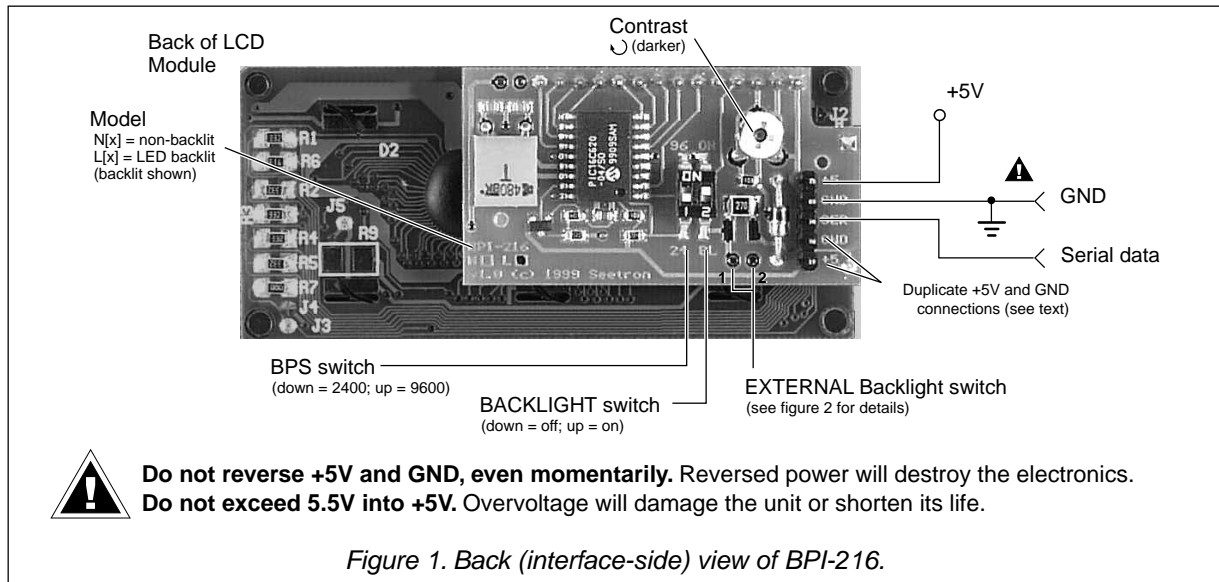

Figure 1. Back (interface-side) view of BPI-216.
• Note: Abusing the module, operating it outside specified limits of power or temperature, or attempting to repair or modify it, voids this warranty. See figure 1 (page 2) and specifications/notes (page 8).
Figure 1 shows the major features and configuration options of the BPI-216 circuit board. Note: The Backlight switch has no effect on non-backlit models. The model (-L for backlit, -N for non-) is marked at the lower-left corner of the interface board.
On models equipped with an LED backlight (marked **L[x]** in the lower left corner of the interface board), you may turn on the backlight by setting the **BL** switch ON. The backlight will be on whenever power is applied. There is also a pair of solder pads near the backlight switch (see figure 1 above) to allow you to control the backlight with an external switch or circuit. Figure 2 below shows the wiring of the backlight and the pads.
Figure 3 shows how to connect the BPI-216 to PCs and BASIC Stamp computers in order to run the example programs presented later in this manual. Refer to figure 1 or the markings on the interface for the locations of +5, GND and SER(ial in).